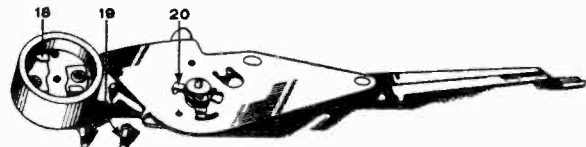

Fig. 2
- a. Remove the two screws 19, Fig. 2, in the switch body, and remove the body from the plate, taking care that the two fiber washers are not lost.